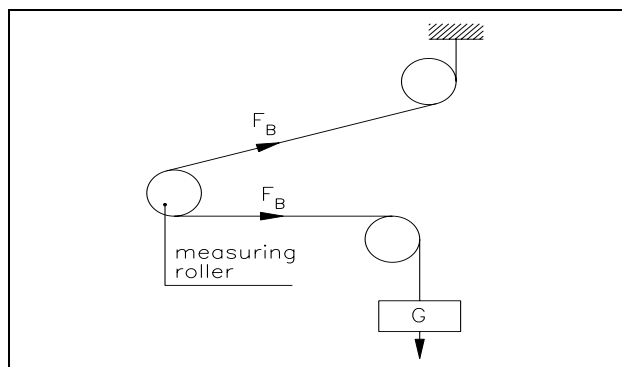

fig. 11: Calibrating the measuring amplifier
- Load material or rope with a defined weight (fig. 11).